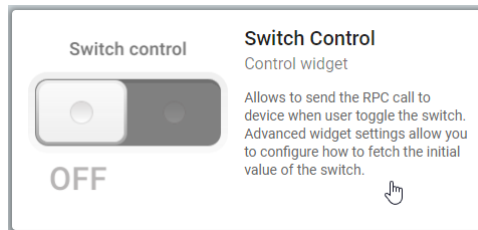

Figure 4.4: Switch Control
18. Now add the **switch control widget** to your dashboard as shown in Figure 4.4.